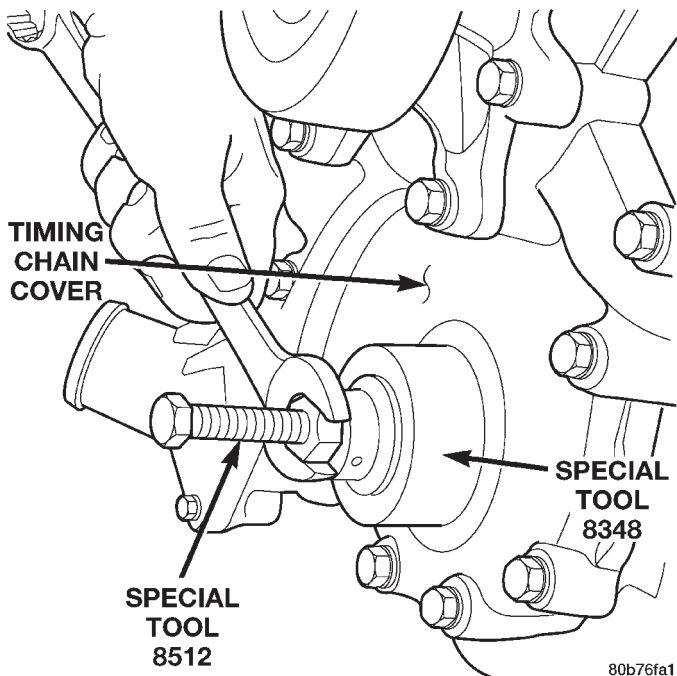
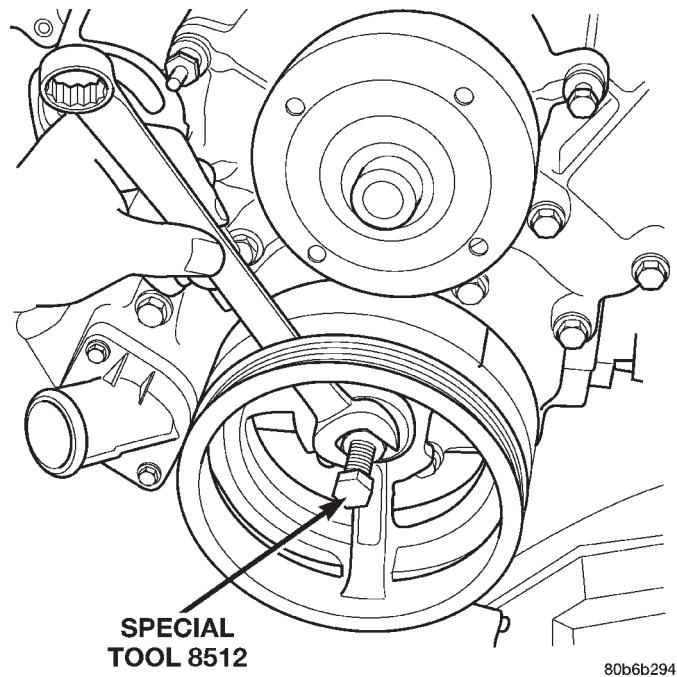

Fig. 110 Crankshaft Front Seal—Installation
Fig. 111 Crankshaft Damper—Installation
(1) Using Special Tool 8348 install crankshaft front seal (Fig. 110).
(2) Align crankshaft damper slot with key in crankshaft. Slide damper onto crankshaft slightly.
(3) Using Special Tool 8512 press damper onto crankshaft (Fig. 111).
(4) Tighten crankshaft damper bolt to 175 N·m (130 ft. lbs.).
(5) Install radiator shroud and tighten fasteners to 11 N·m (95 in. lbs.).
(6) Connect electrical connector for shroud fan.
(7) Install fan and viscous assembly.